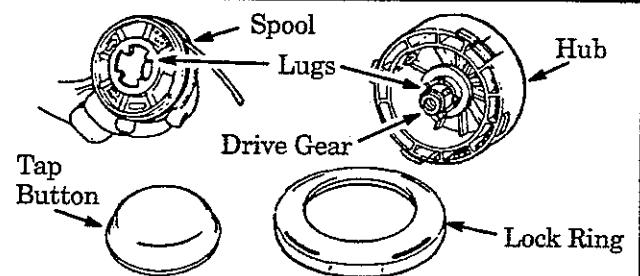
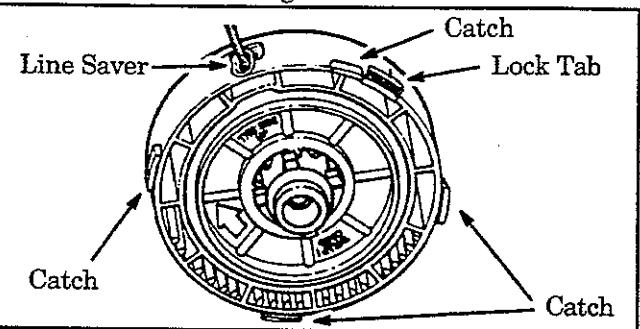

Figure 18
Figure 19
- Remove the lock ring, tap button, and spool. Figure 18.
NOTE: The aluminum line saver (Figure 19) can become worn during use. After a groove is worn into the line saver, remove it from the trimmer head, turn it upside down, and reinstall it (with the spool removed) to provide a new wear surface.
- Insert the end of the line through the line saver. Figure 19. Place the spool in trimmer head. Press the spool down, then turn it enough to lock the lugs on the spool under the lugs on the drive gear. Figure 18.
- Replace the tap button. Align the lock ring over the catches on the hub; push the lock ring down on the hub and turn it clockwise until the catches lock into place. Figure 19.